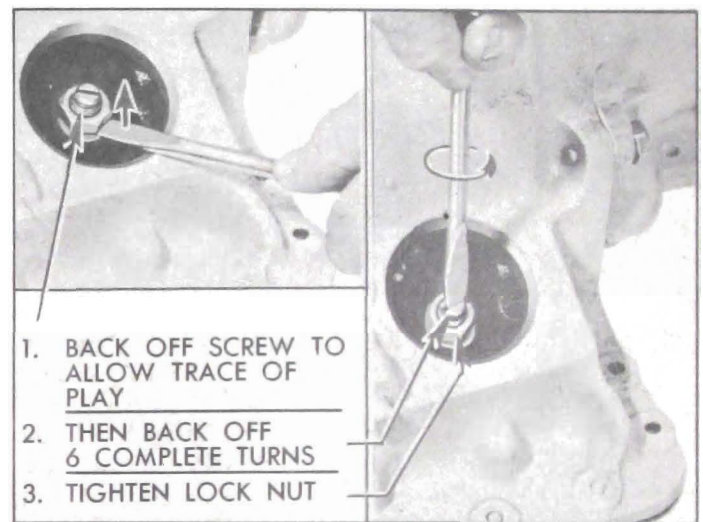

Figure 5-108—Band Adjustment
1. Loosen lock nut and turn adjusting screw clockwise until considerable resistance is felt, indicating that band is in full contact with the drum (low) or ring gear (reverse). See figure 5-108.
2. Back off screw until just a trace of play can be felt by prying up on lock nut with screwdriver. From that point, back off screw six (6) complete turns and snug up the lock nut. See figure 5-108.